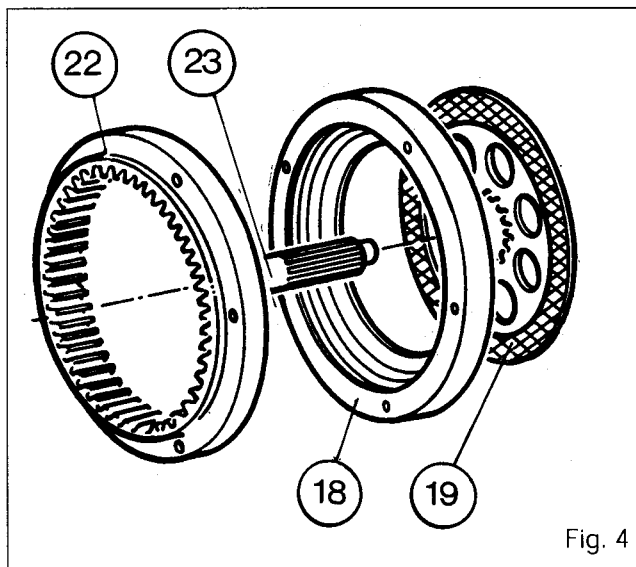

Fig. 4
18. Check that the disk (27) slides freely on the sun gear (25) (Fig.4).
19. Refit the locating dowel (28), the planetary shaft (25) and the brake disc (27).
21. Refit the brake plate (26) in the trumpet housing.